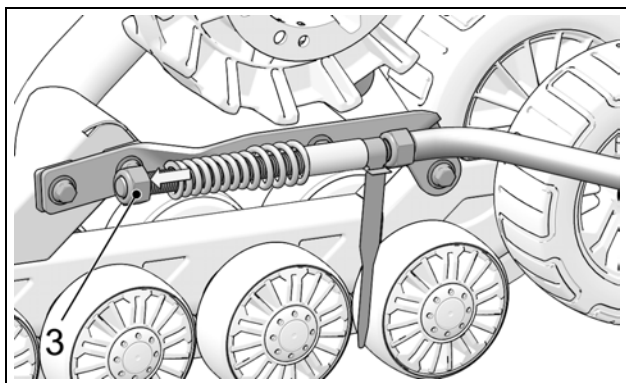

Figure 12
- Loosen the nut (3) compressing the spring of the stabilizing rod. See Figure 12.